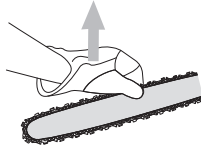

Fig. 36
4. Once adjusted, lift the tip of the guide bar up to check for proper tension (Fig. 36). If the chain is still too loose, release the tip of the guide bar and turn the chain-tensioning screw  $\frac{1}{2}$  turn clockwise. Repeat this process until the desired tension is achieved.